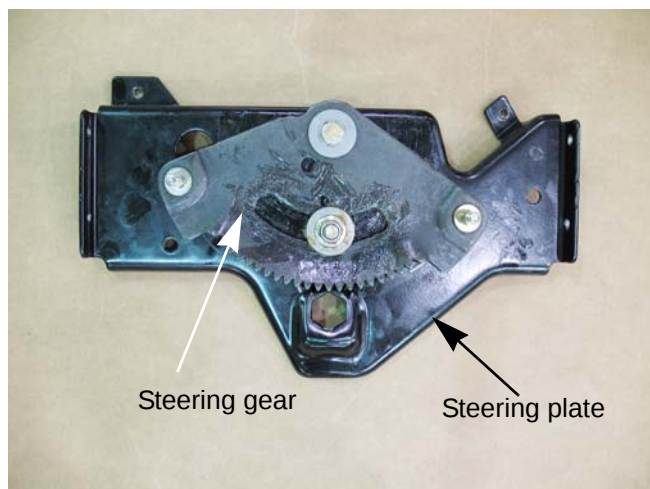

Figure 3.13
11. Remove the hex cap screw, shoulder spacer and hex nut in the middle of the steering gear using two 9/16" wrenches. See Figure 3.13.
12. Remove the bolt that the steering gear pivots on using two 9/16" wrenches. See Figure 3.13.